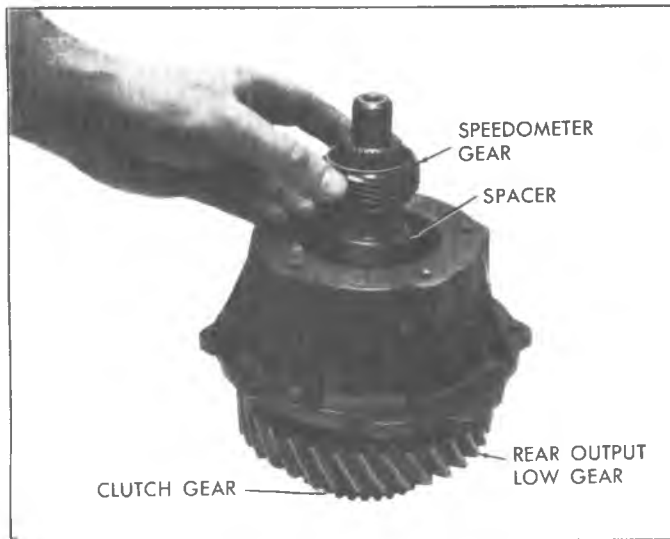

Fig. 18C-Installing Rear Output Shaft Spacer and Speedometer Gear
6. Install housing onto output shaft assembly, install spacer and speedometer gear, then install bearing (Fig. 18C.)